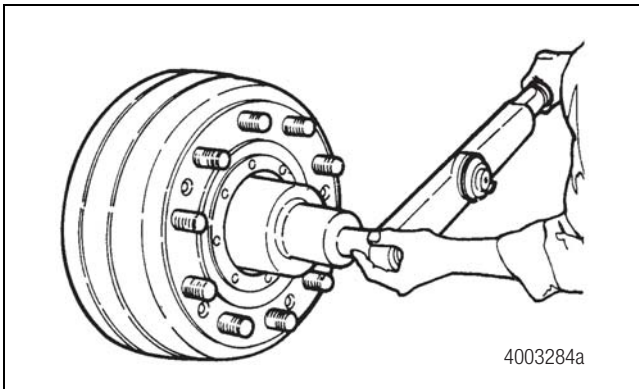

Figure 10.3
- Use the correct size socket to remove or install the spindle nuts. Figure 10.3.